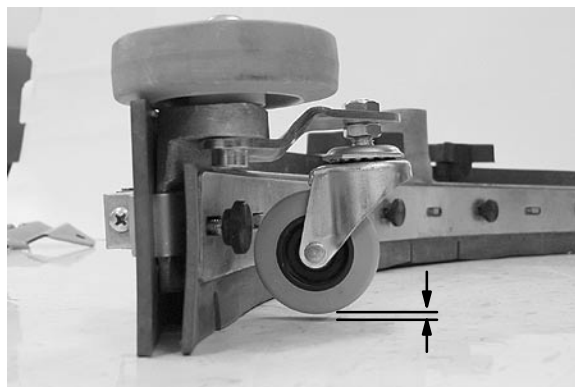

Fig. 13
10. With the squeegee assembly removed from the machine and placed on a level surface, adjust the height of the casters approximately 1/16" off the surface. Tighten nuts, 14mm wrench required (Figure 13).